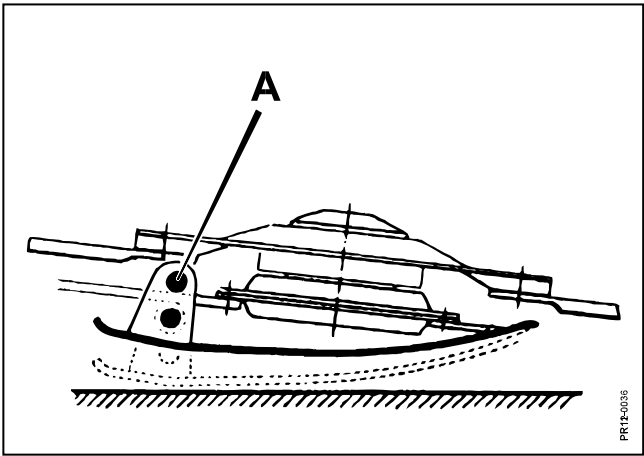

Fig. 3-8
- Fig. 3-8** 2) Adjust **the stubble height** by means of the guide shoes and by adjusting the inclination of the cutter bar.